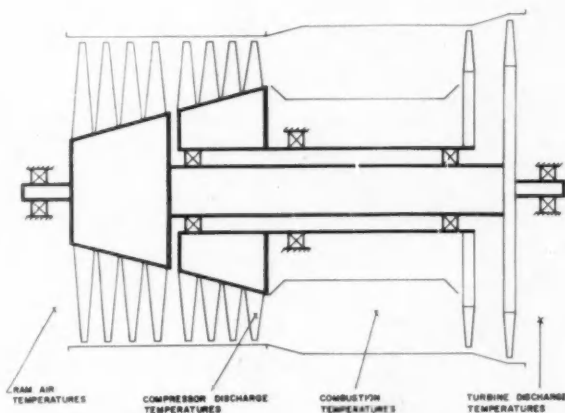

Fig. 3—Schematic diagram of dual rotor engine
Fig. 3 is a schematic diagram of a dual rotor engine. This engine requires lubrication for more
c. Higher load-carrying capacity. In the discussion of the dual rotor engine (Fig. 3), it was pointed out that the synthetic oils must have a greater load-carrying capacity to accommodate the increase in number of bearings, and also for the reduction gear in the turboprop version.